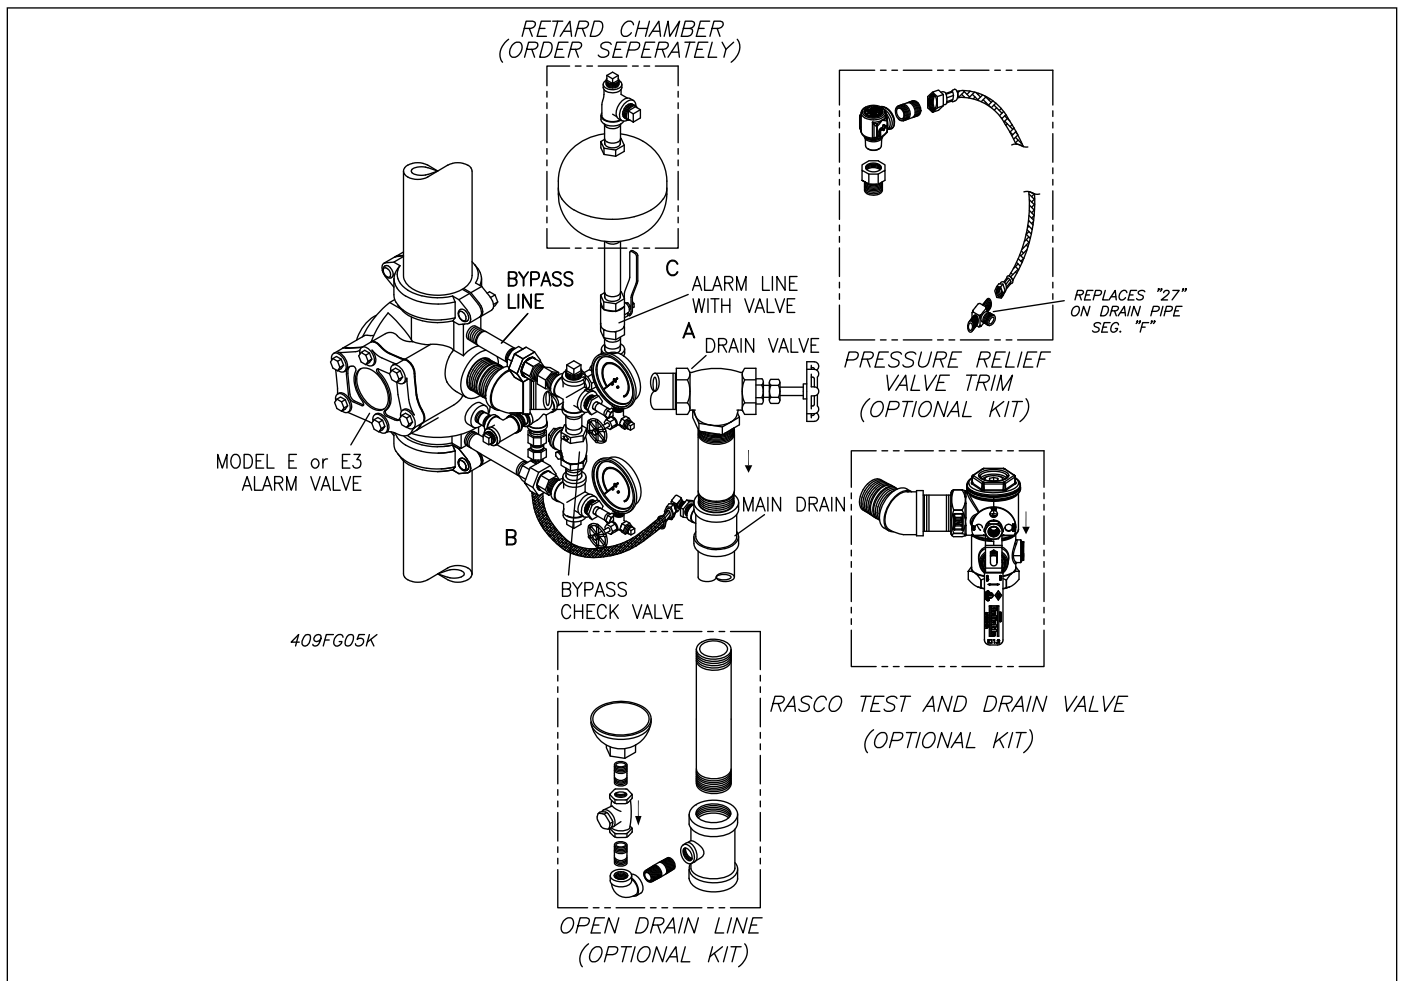

Fig. 3
- a. The By-Pass connection with Check Valve (Figure 3 & 4) allows pressure surges from the supply to bypass the Alarm Valve Clapper. An excess system pressure is thus created which steadies the Clapper. Should a heavy surge unseat the Clapper and permit water to flow into the alarm line, the Retard Chamber then comes into action.
The E3 trim sets for the Reliable Model E Alarm Valve (Figs. 3 & 4) are arranged for rapid, easy and compact attachment, and serve as connection points to Reliable alarm and other devices. They also act as a means for testing the system to operate. The Model E alarm valves are available in two trims and may be installed in the vertical or horizontal position in the main supply to the wet pipe system:
- **Variable Pressure with Open Retard Chamber Drain** — Retard chamber is required. Optional Drain Line Kit required (see Figs. 3 & 4). This trim set is used where water supply pressures vary. An open drip cup is provided to drain the retard chamber and the mechanical sprinkler alarm line. This drain connection should be piped separately from the 2" main drain.
- The trim set permits both vertical (Fig. 3) and horizontal (Fig. 4) installations.
- A Reliable TD test and drain valve segment is optional, to be purchased separately, as a replacement to the Drain valve (see optional Kit in Figs. 3 & 4).
- All trim sets can be fitted with an optional Pressure Relief Valve Trim Kit (see optional kit in Figs. 3 & 4) to relieve pressures above 175 psi in the sprinkler system, as required by NFPA 13 2010 edition and newer.